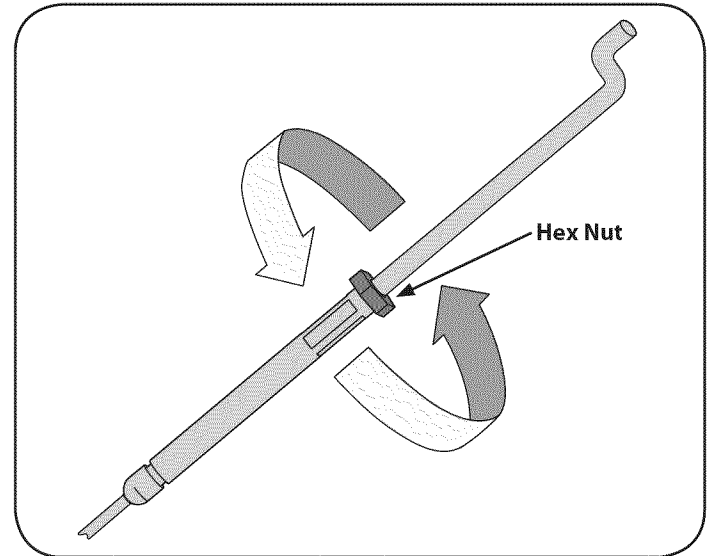

Figure 9
2. Adjust the cable by loosening the hex nut. See Figure 9.